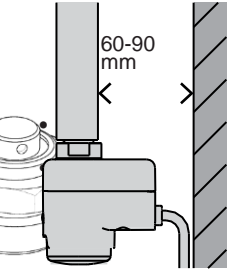

Fig. 2
- The Towel rail has to be mounted parallel to the wall using the brackets recommended by the towel rail manufacturer. The distance between ATLANTIS III and the wall must be between 60 and 90 mm (Fig. 2). In order to avoid a hazard for younger children, the electrical towel rail should be installed so that its bottom part is at least 600mm above the floor according to EN 60335-2-43/A1.